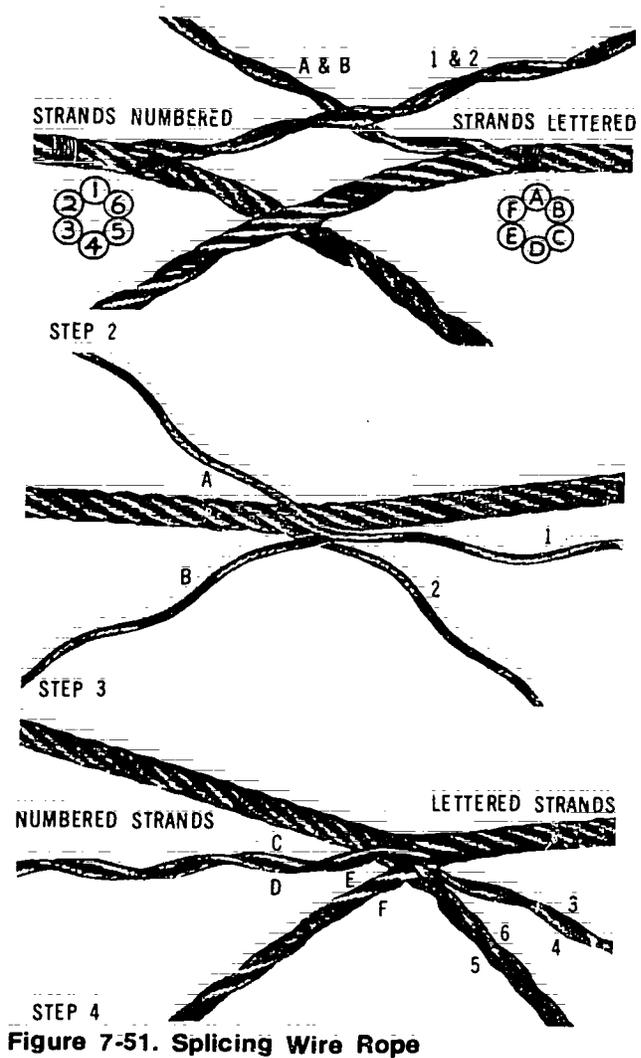

Figure 7-51. Splicing Wire Rope
- Step 2. Unlay two strands from each piece to the marks and interlay the pairs as shown in Figure 7-51. Pull the ropes together snugly at the marry.
- place. Then take Strand 1 and unlay it further, back to the 25' mark and lay Strand A in its place (Figure 7-51).
- Step 4. Unlay Strands C and D back to the 15' mark (in the opposite rope) and lay Strands 3 and 4 in their place. Then take Strand C and unlay it further, back to the 25' mark and lay Strand 3 in its place (Figure 7-51).